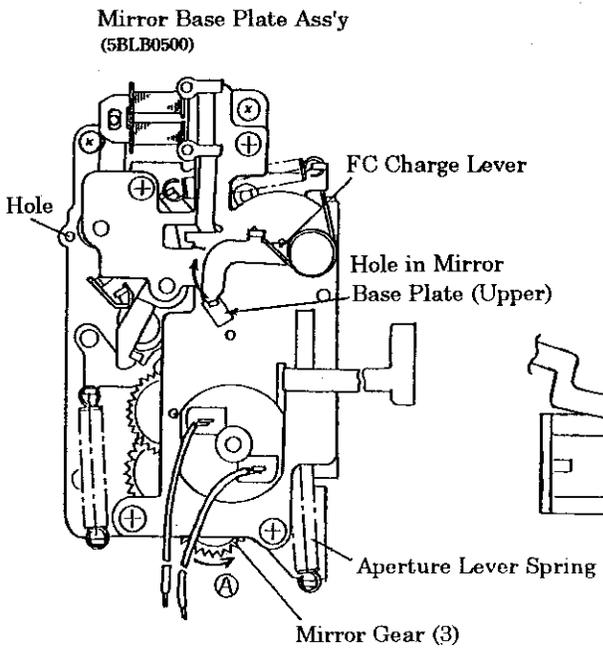
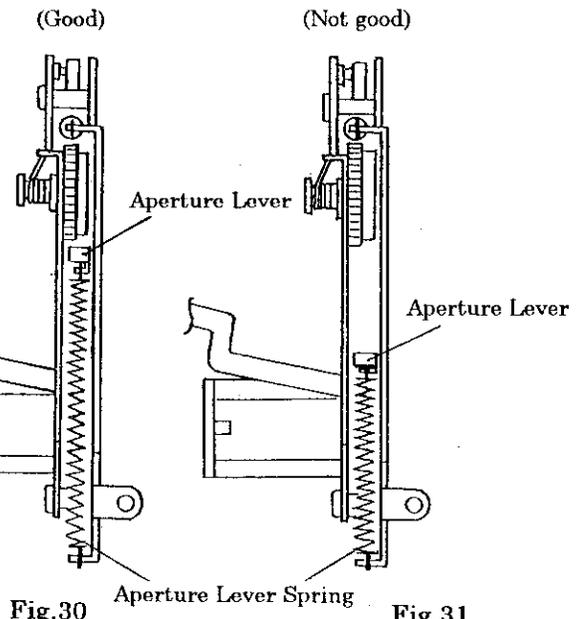

Fig.29
Fig.30 Fig.31
- ① Turn the Mirror Gear (3) (1AM71300) in the direction of the arrow (A), and the FC Charge Lever will be moved upward in the hole in the Mirror Base Plate (Upper) by the effect of the cam of the Cam Gear.
- ② Turn the Mirror Gear (3) further, and the S. Charge Lever is pulled downward by the force of the Charge Lever Spring (1AM72710). After that, move the S. Charge Hold Lever in the direction of the arrow (B), and the hook of the S. Charge Lever and the hook of S. Charge Hold Lever will be released and the Mirror will move up.
- ③ Turn the Mirror Gear (3) further in the direction of the arrow (A) until the Aperture Lever comes to the up position (see Fig. 30). Then install the Mirror Box Ass'y in the Body.
- 1) Turn the Mirror Gear (3) of the Mirror Base Plate Ass'y (1AMG1900) in the direction of the arrow (A) (see Fig. 29) until the Aperture Lever comes to the up position. At this point, the Aperture Lever Spring must be in the expanded position. (See Fig. 30)